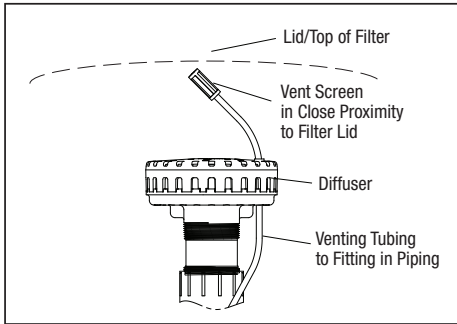

Figure 11. Automatic Vent Positioning
9. Make sure that the automatic vent tubing is in place (threaded through the diffuser) and the vent screen is installed at the top of the vent tubing. See Figure 11.
2. Before installing the lid, ensure that the air vent screen at the top of the air vent tubing is properly located above the diffuser such that it will be close to the underside of the lid when the lid is installed. See Figure 11.